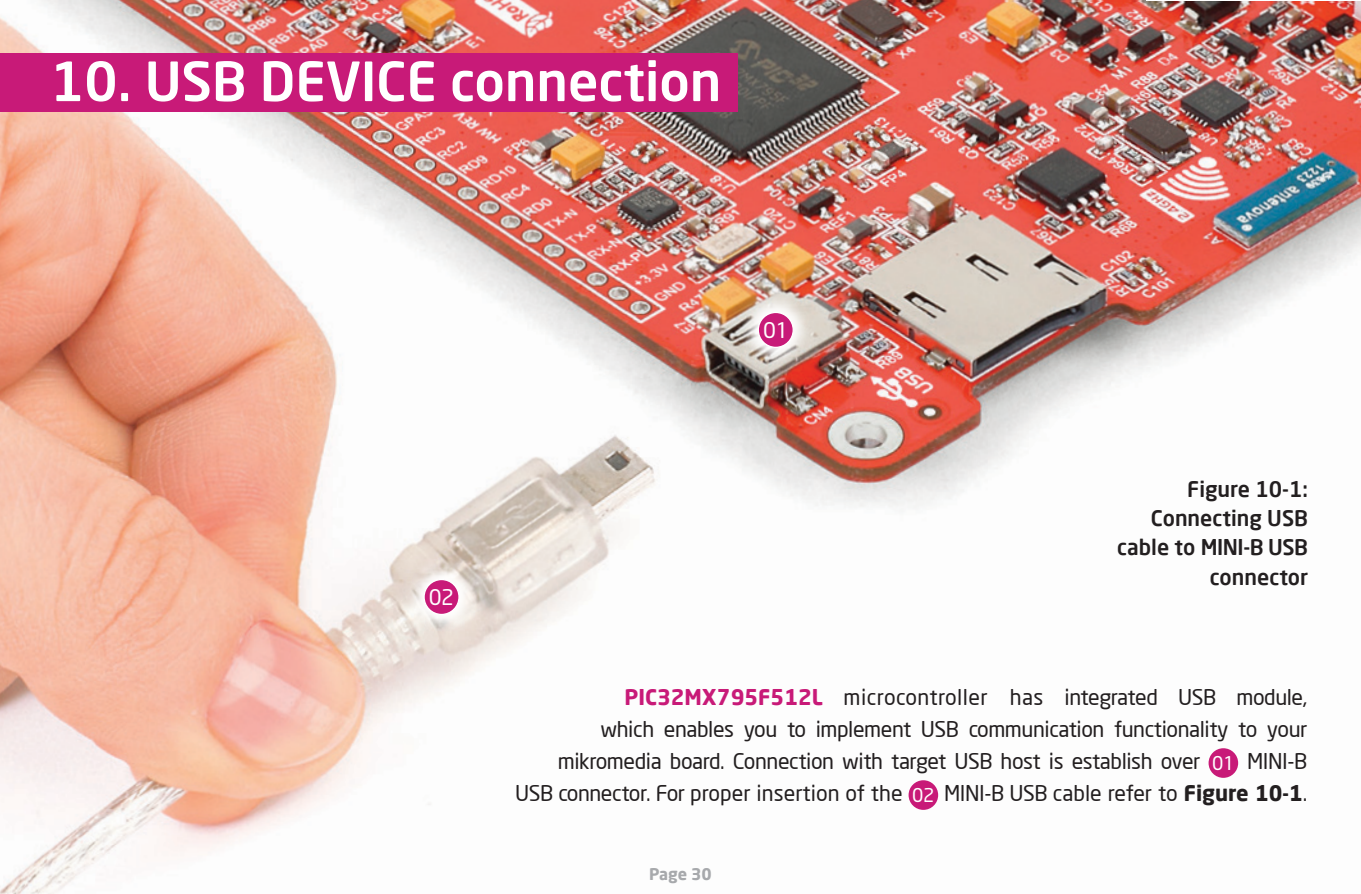

Figure 10-1:
**PIC32MX795F512L** microcontroller has integrated USB module, which enables you to implement USB communication functionality to your mikromedia board. Connection with target USB host is establish over **01** MINI-B USB connector. For proper insertion of the **02** MINI-B USB cable refer to **Figure 10-1**.